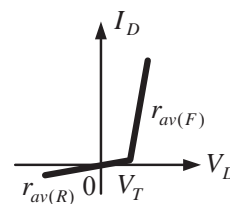

Fig. 1-8
1. Piecewise-Linear Model: (see Fig.1-8);